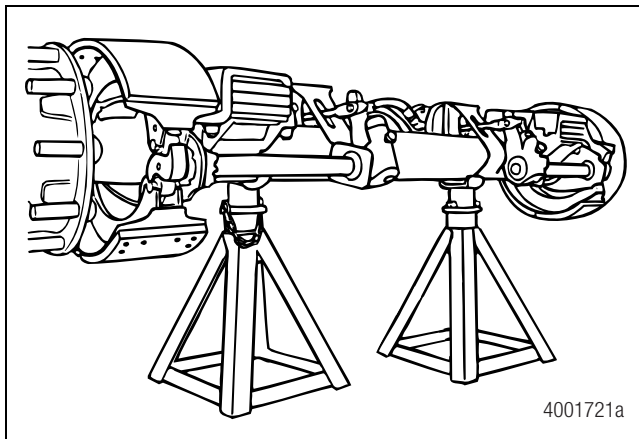

Figure 4.21
2. Use a jack to raise the trailer until the tires are off the ground. Place safety stands under the trailer frame or axles. Figure 4.21.